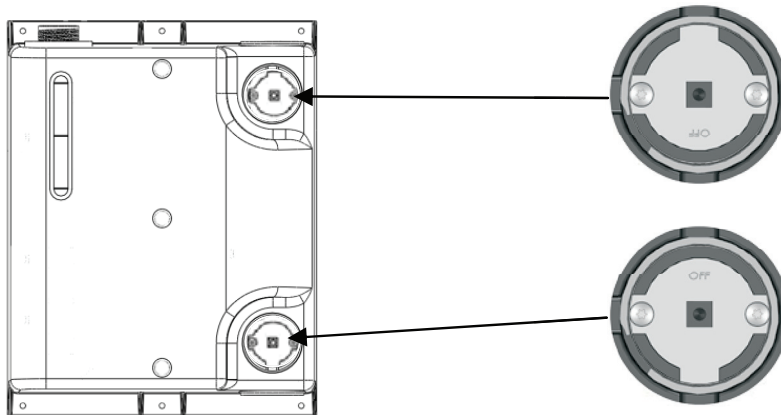

Figure 10: Valve position for system operation
9. Rotate valves on *Geo-Prime Tank* to operating position (Figure 10).